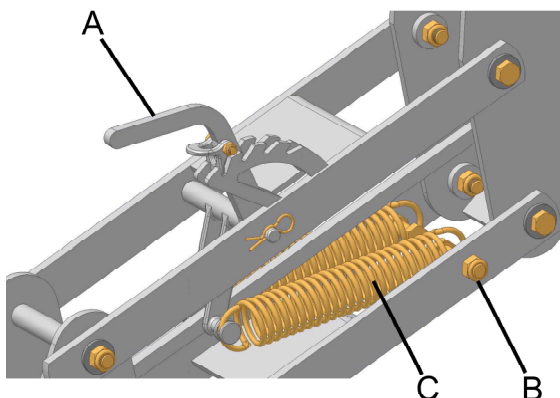
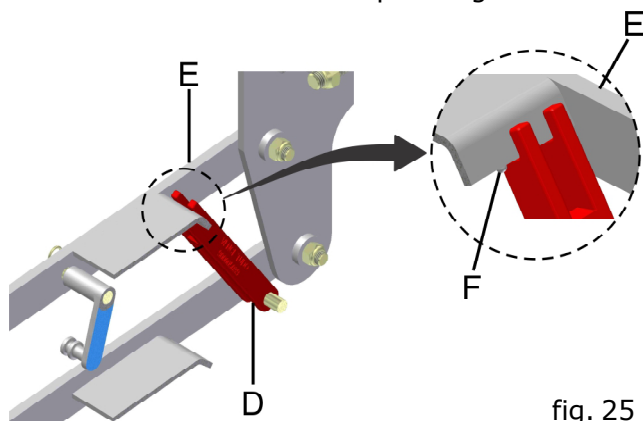

fig. 24
fig. 25
Take the pressure off the springs (C) (fig. 24), by means of lever (A), then remove the springs (C), remove the pin (B) and lift the planting line blocking it with the shim (D) (fig. 25) and reassembling the pin (B), locking it with the cotter pins.
The shim should be between the lateral (E) (fig. 25) (cross-sectional view), and the limiter point (F), as shown in detail in (fig. 25).